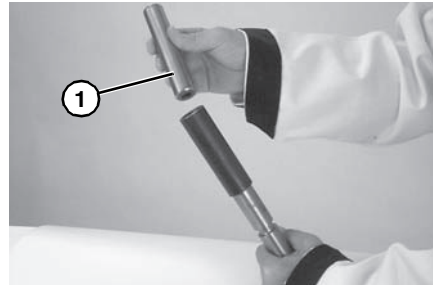

Figure 43
5. Place open end of pusher (**Figure 43, item 1**) into sleeve.